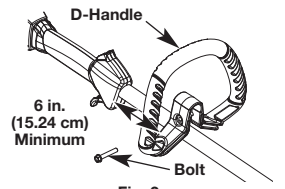

Fig. 2
1. Loosen the bolt on the handle just enough to move it (Fig. 2).
3. Tighten the bolt until the D-handle is secure. (Fig. 2)